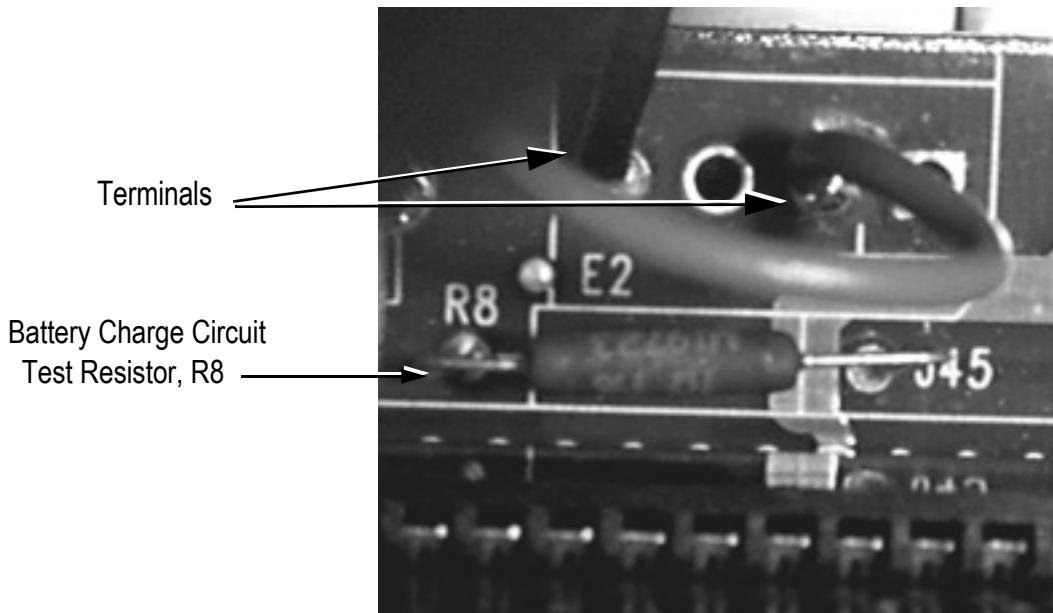

Figure 6-21. Location of Battery Charge Circuit Resistor, R8
1. Attach a DVM across R8 on the mother board (see Figure 6-21). Note that the polarity of the hookup is not important.